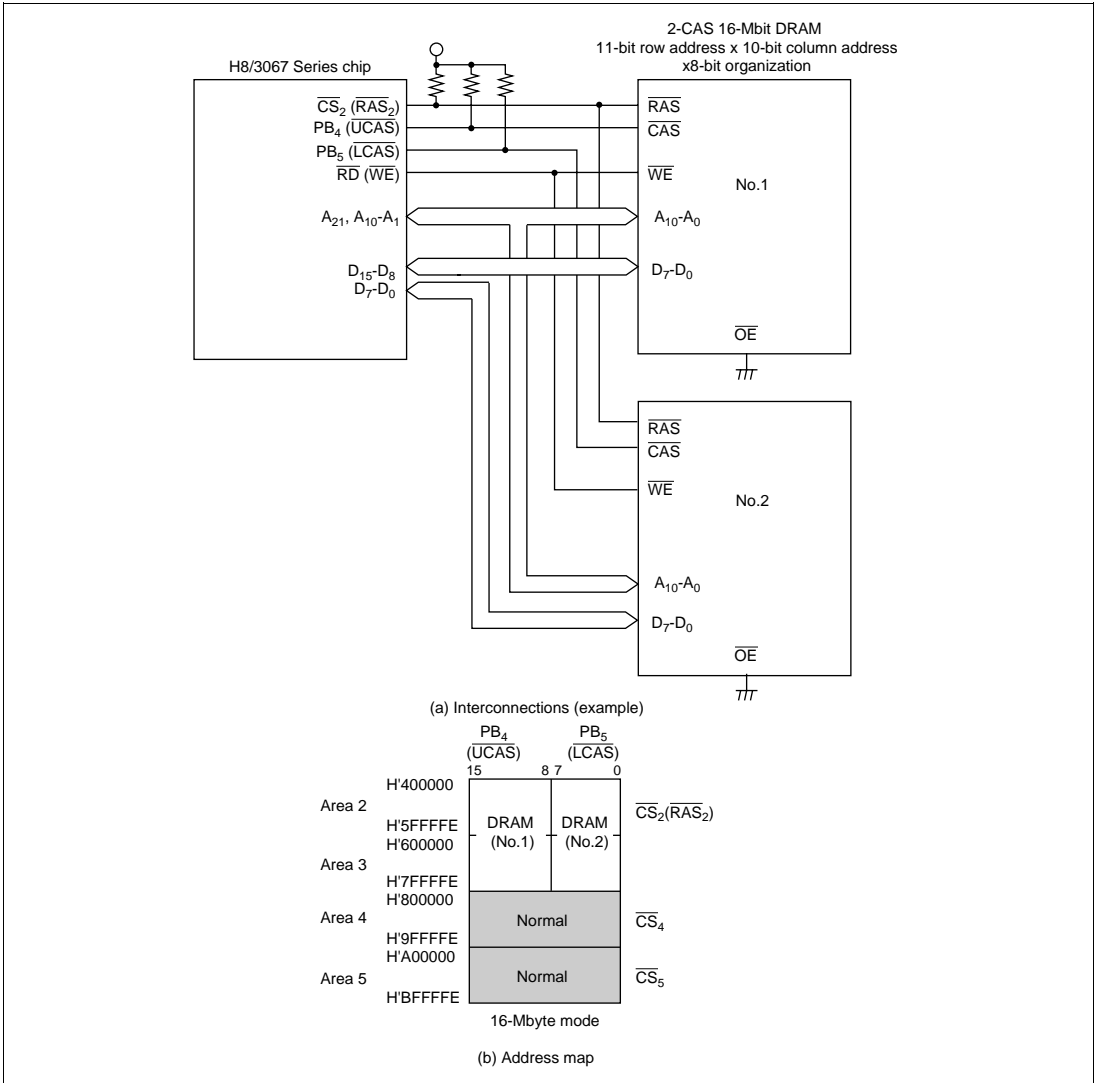

Figure 6.32 Interconnections and Address Map for 16-Mbit DRAMs with $\times 8$ -Bit Organization
- Figure 6.32 shows typical interconnections when using two 16-Mbit DRAMs using a $\times 8$ -bit organization, and the corresponding address map. The DRAMs used in this example are of the 11-bit row address \times 10-bit column address type. The \overline{CS}_2 pin is used as the common \overline{RAS} output pin for areas 2 and 3. When the DRAM address space spans a number of contiguous areas, as in this example, the appropriate setting of bits DRAS2 to DRAS0 enables a single \overline{CS} pin to be used as the common RAS output pin for a number of areas, and makes it possible to directly connect large-capacity DRAM with address space that spans a maximum of four areas. Any unused \overline{CS} pins (in this example, the \overline{CS}_3 pin) can be used as input/output ports.